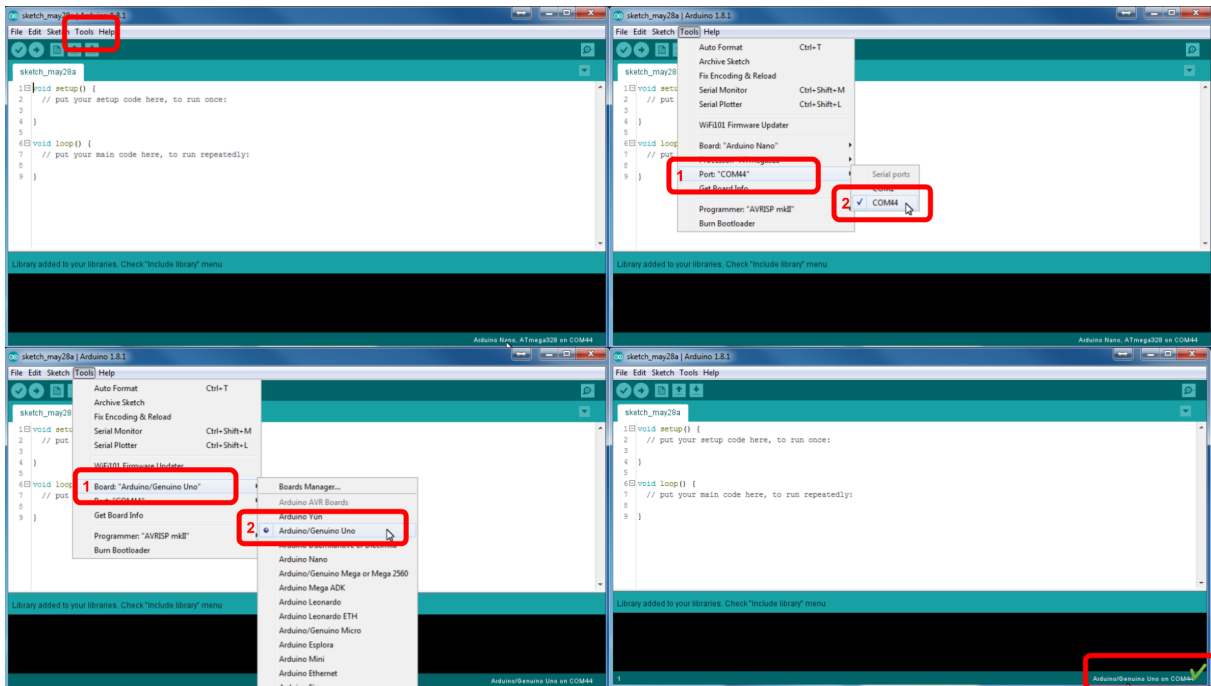

Figure 2.2: Arduino basic setup.
2. Make shure that you will set the proper settings (see fig. 2.2). From the menu choose: